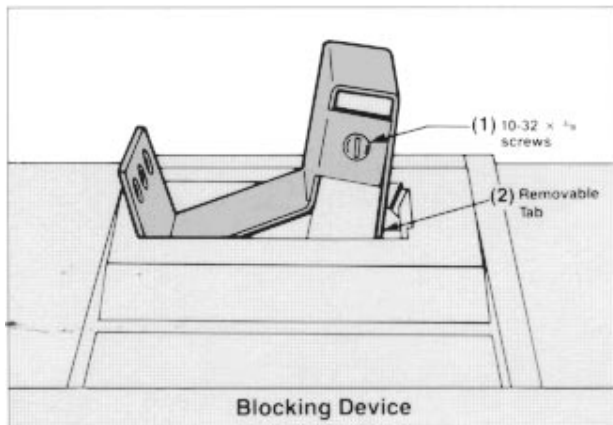

Figure 1
- Loosen the two screws (1) (#10-32 x 3/8 in.) so that the blocking device can be positioned and fully seated over the toggle handle, as shown in Figure 1.